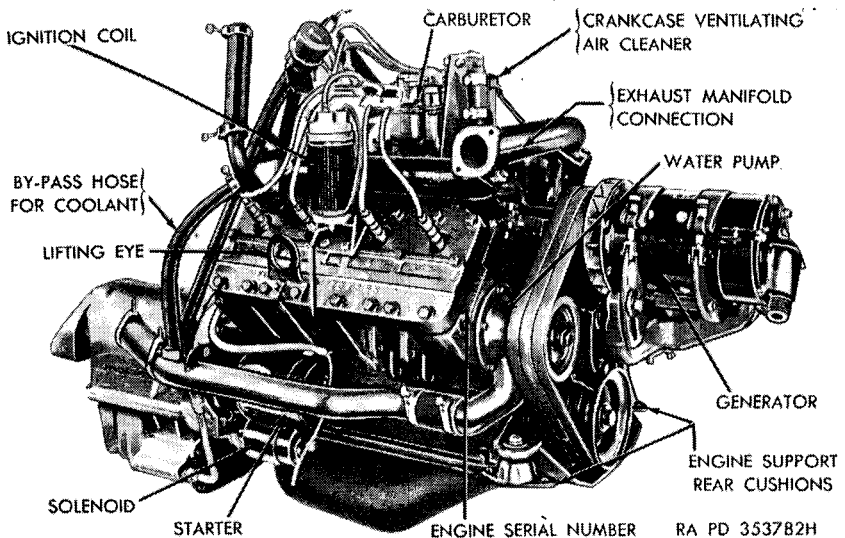

Figure 35. Engine.
- (1) This vehicle is powered with two 90° V-type, 8-cylinder engines (fig. 35), mounted side by side in the engine compartment in the rear of the hull. The engine cylinder blocks and crankcase, made in one casting of grey iron, support the crankshaft and camshaft and enclose the reciprocating parts. Cylinder heads are of cast iron also. The cylinders are arranged in two banks of four each, located 90° apart. Opposite connecting rod assemblies operate side by side from the same crankshaft journal.
a. **GENERAL.** A triple-grooved pulley, mounted on the front of the crankshaft, carries three "V" belts which drive the water pump and generator (fig. 35). A bracket on the engine front cover provides for mounting the generator, and a movable cradle assembly permits belt adjustment.